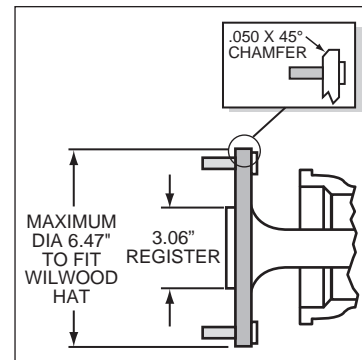

Figure 5. Axle Flange Maximum Dimension
- Axle center register diameter is 3.06", Figure 5.
- Maximum axle flange diameter must be no larger than 6.47" w/.050" x 45° chamfer (Figure 5).